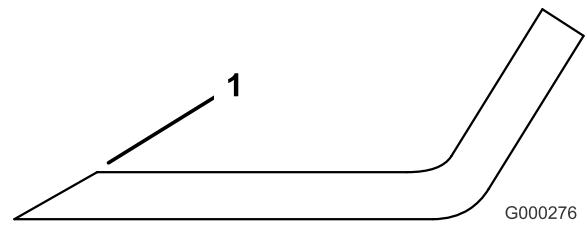

Figure 88
3. Examine the cutting edges of all of the blades and sharpen the cutting edges if they are dull or nicked (Figure 88).
Note: Sharpen only the top of the cutting edge and maintain the original cutting angle to ensure sharpness (Figure 88). The blade will remain balanced if the same amount of metal is removed from both cutting edges.